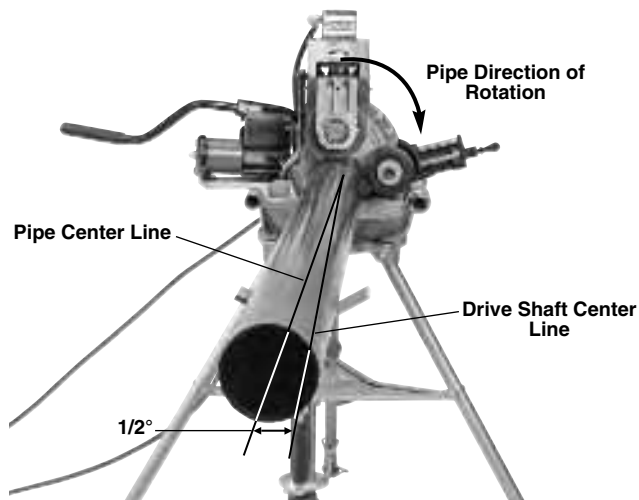

Figure 14 – Offsetting the Pipe 1/2° Toward Operator, (Exaggerated)
- Move the power drive/threading machine REV/OFF/FOR switch to the REV position. Press and release the foot switch. Drive roll should rotate clockwise (see *Figure 14*) matching the pipe rotation decal on the groover. If the groover does not rotate in the correct direction, or the foot switch does not control the machine operation, do not use the machine until it has been repaired.
7. **Preferred Operation – Switch in REV Setting:** Slightly offset the pipe and pipe stands approximately 1/2 degree (about 1" over at 10 feet from the roll groover) towards the operator. Proper alignment of the pipe and roll groover helps to ensure proper tracking of the pipe while grooving (see *Figure 14*). This is proper offset for grooving with the machine in the REV switch setting, and works with the stabilizer.
- Slightly increase the offset of the pipe (increase from $\frac{1}{2}$ degree to 1 degree) See *Figure 14*.